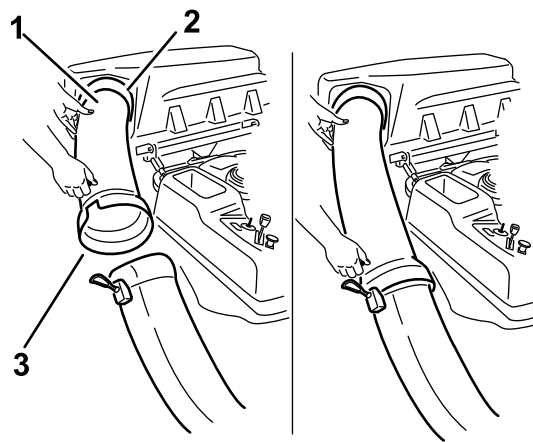

Figure 41
- Slide the curved end of the discharge tube into the opening in the bagger top (Figure 41).
- Slide the flared end of the discharge tube over the end of the chute. Move the rubber retaining strap on the chute snaps over the peg on the discharge tube to secure it (Figure 41).